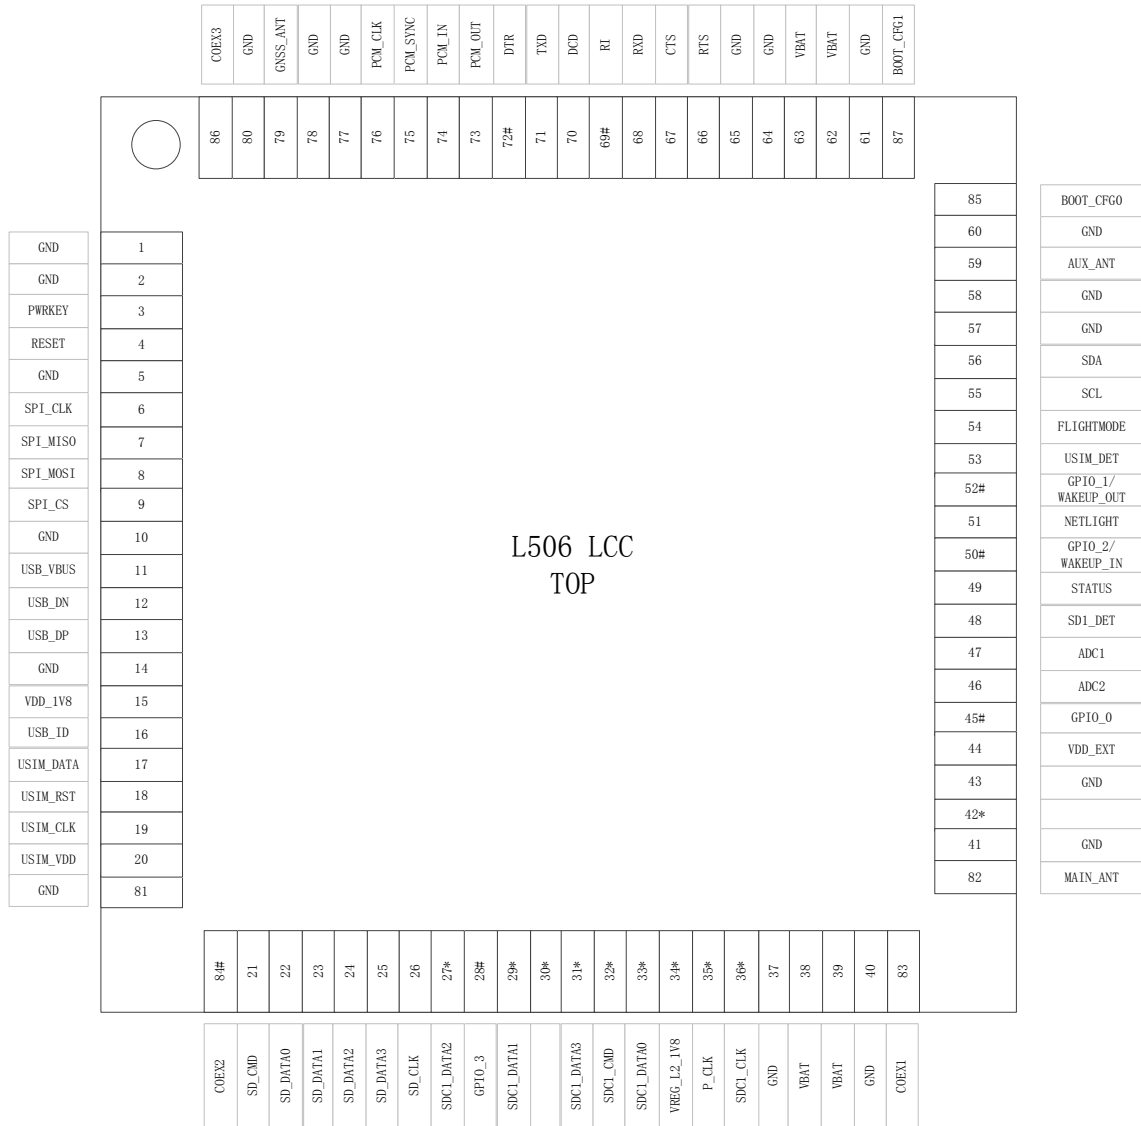

Figure 3-1 Pin Map View (Top View)
L506 have different version, and the correspond pin definition show as special mark (\* mark or #mark) in the pin map. In the different hardware version the corresponding pin have differential using, detail description show as below chart. All hardware interfaces which connect L506 to customers' application platform are through 87 pins pads (Metal half hole). Figure 3-1 is L506 outline diagram.
*#flag pin in Figure 3-1 stand for multi-function pin. Detail description show as in corresponding function description.*